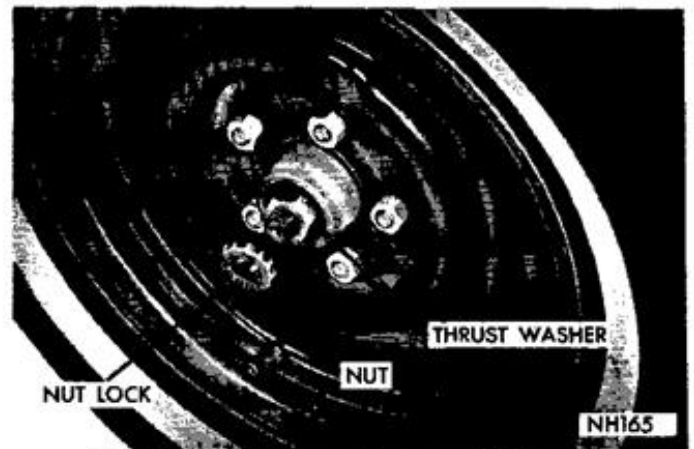

Fig. 62—Front Wheel Bearing Adjustment
(1) Install wheel and drum assemblies and tighten wheel nuts on Dart models to 55 foot-pounds. On all other models tighten nuts to 65 foot-pounds.
(2) Tighten wheel bearing adjusting nut (Fig. 62) to 70 inch-pounds on Dart models and 90 inch-pounds on all other models, while rotating wheel.
(3) Position nut lock on adjusting nut so one pair of cotter pin slots align with hole in spindle.
(4) Back off adjusting nut and nut lock to the next slot and install cotter pin.